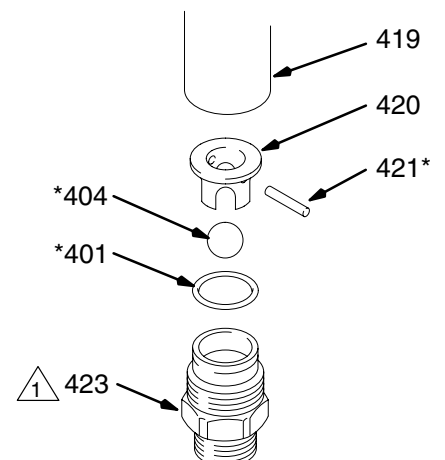

Fig. 28
2. Disassemble the intake valve. See Fig. 28.